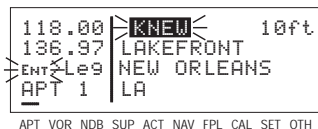

Figure 4-4
7. Press **ENT**. A waypoint page for the identifier just entered will be displayed on the screen (figure 4-4). If a mistake was made and the wrong waypoint identifier was entered, press **CLR** and begin again. If no mistake was made but the waypoint identifier just entered isn't in the data base, a page allowing creation of a user